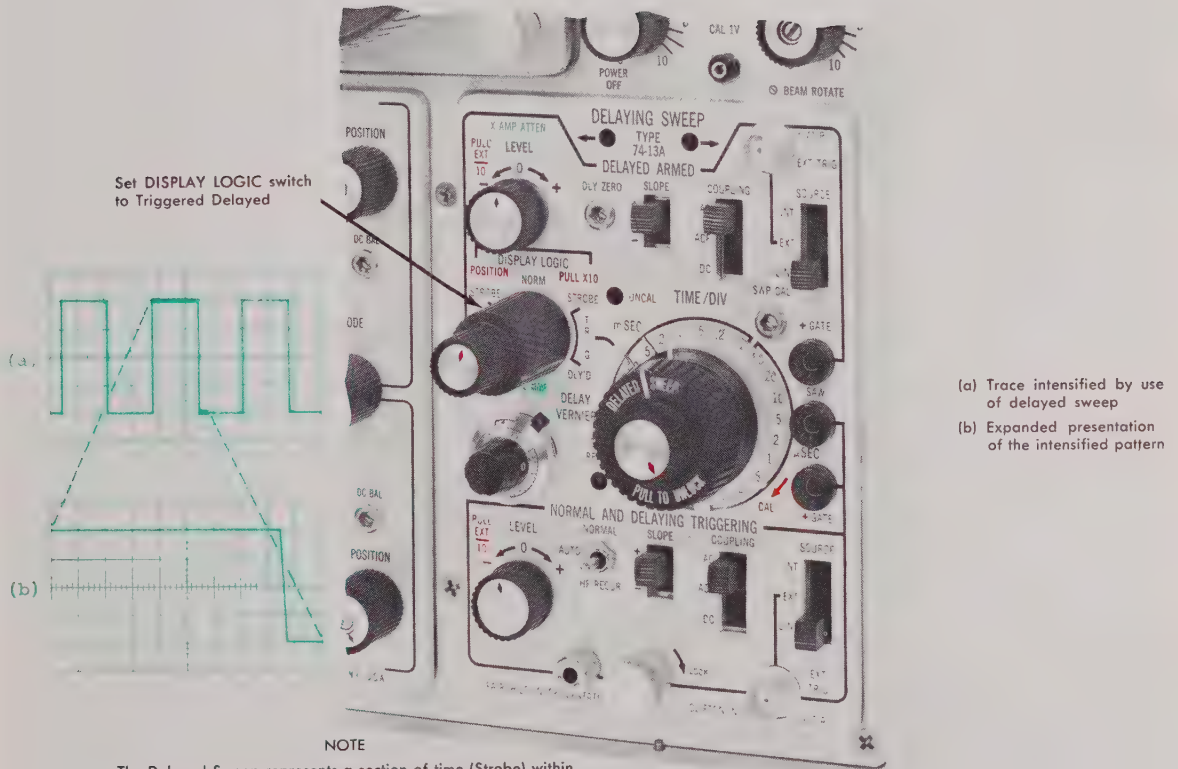

Figure 2-3b. Type 74-13A Delayed Triggered Display
- Figure 2-3b Type 74-13A, Delayed Triggered Display
This is a continuation of the initial setup of Figure 2-3b. Set the controls exactly as shown and perform the numbered steps in sequence
When the DISPLAY LOGIC switch is set to Triggered DELAYED, the brightened section of the display in the STROBE position is now expanded to full scale. See Figures 2-3b and 2-4b.